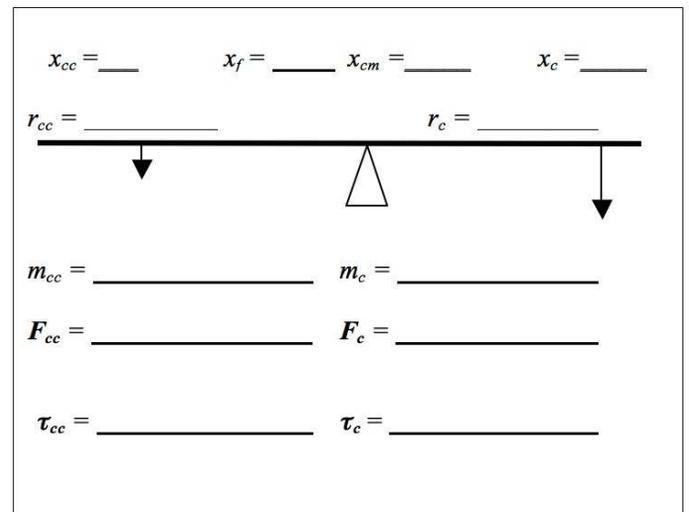

Figure 8.3: Required sketch for each experimental arrangement
3. Refer to the procedure, *Part 1*, 1st arrangement. Assume $x_{cm} = 50.0$ cm, 150.0 g is suspended from a hanger clamp at the position $x_{cc} = 15.0$ cm, and a hanger clamp is at position $x_c = 75.0$ cm. If each hanger clamp has a mass $m = 16.5$ g, what mass must be added to x_c in order to attain stable equilibrium? Sketch a diagram of the situation (refer to Fig. 8.3). (30 pts)